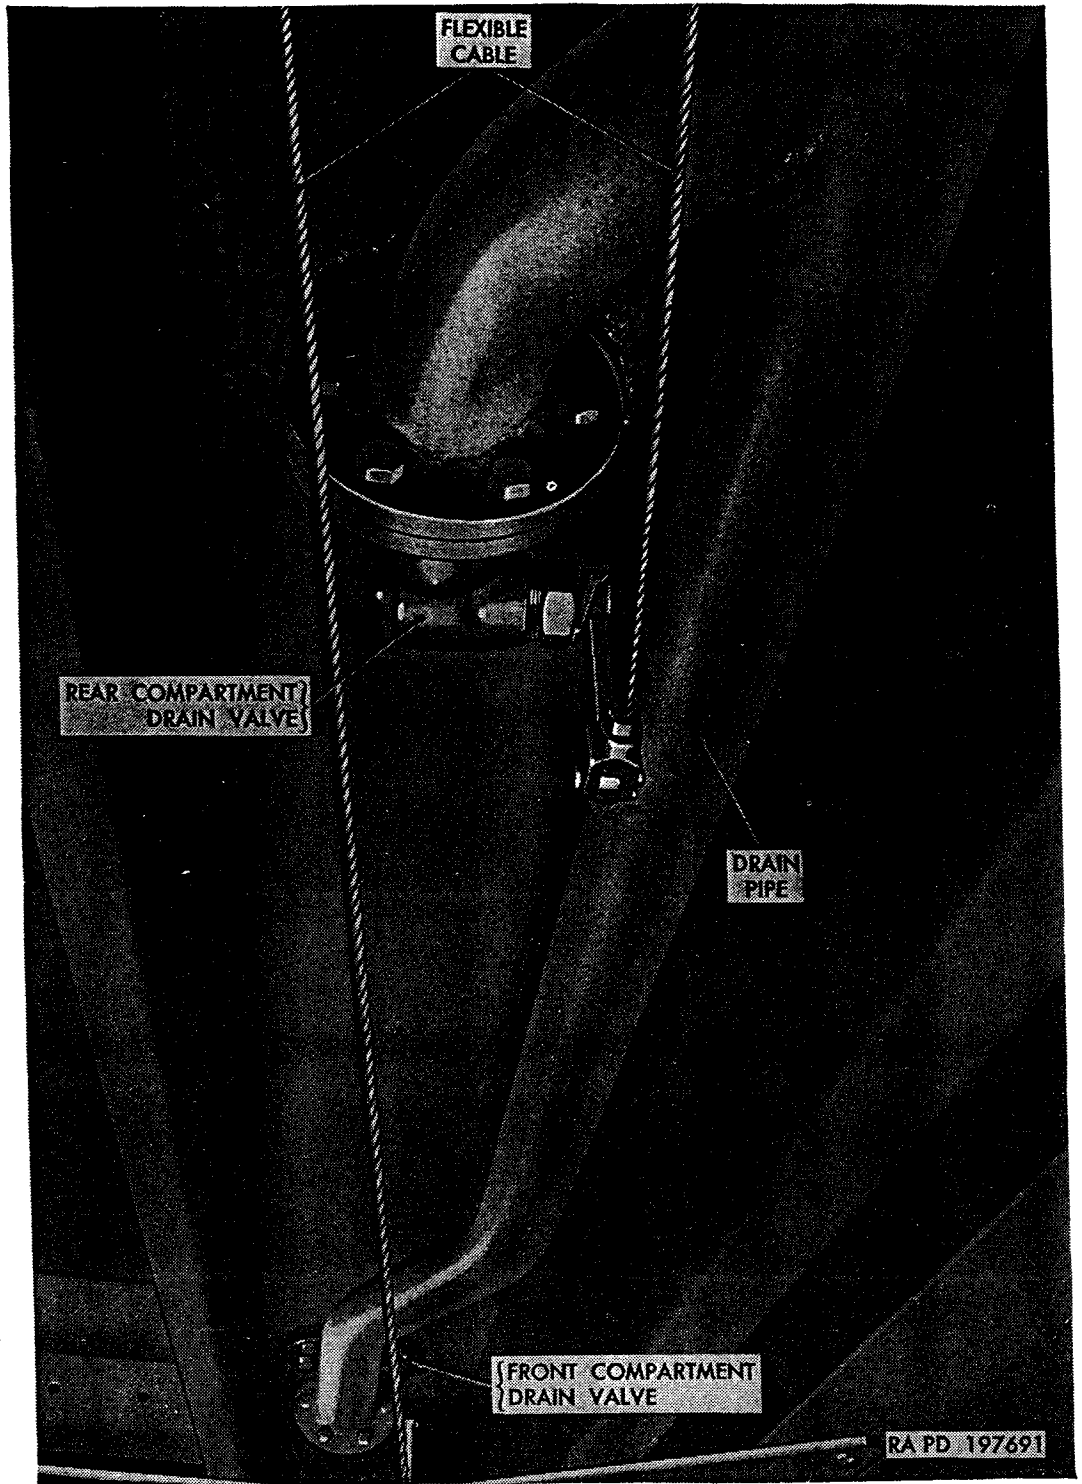
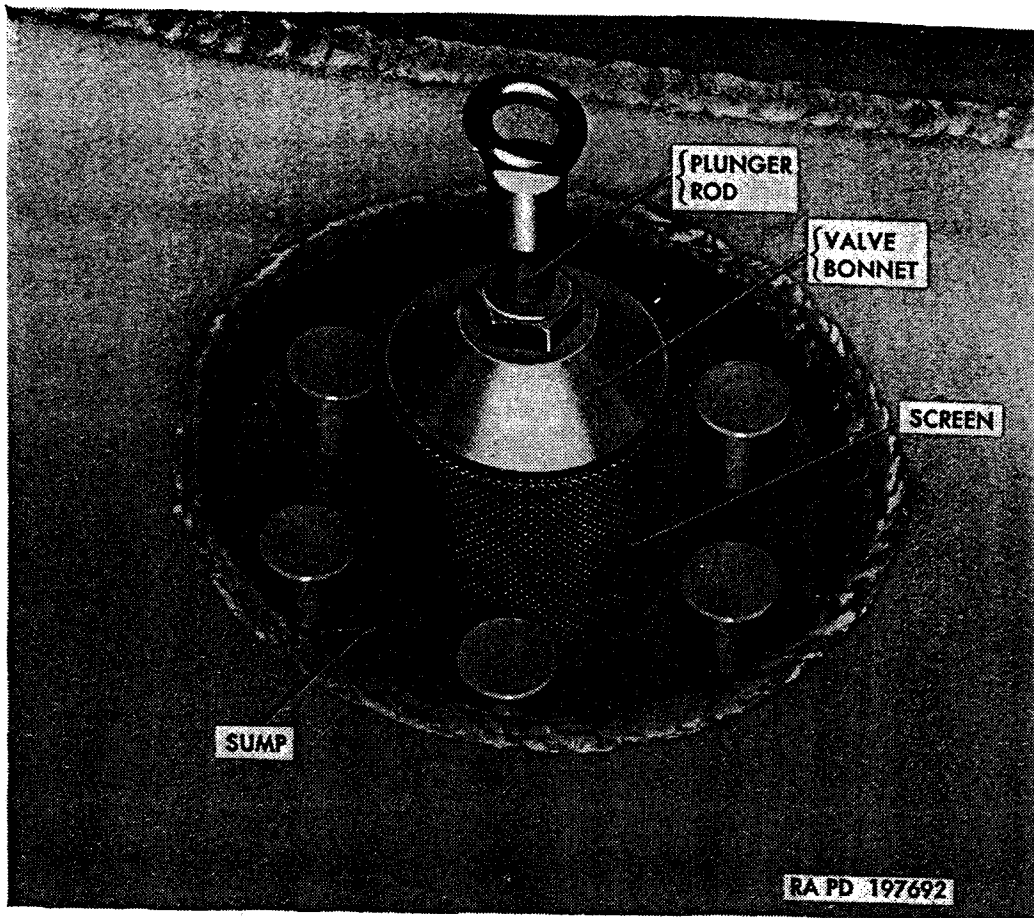
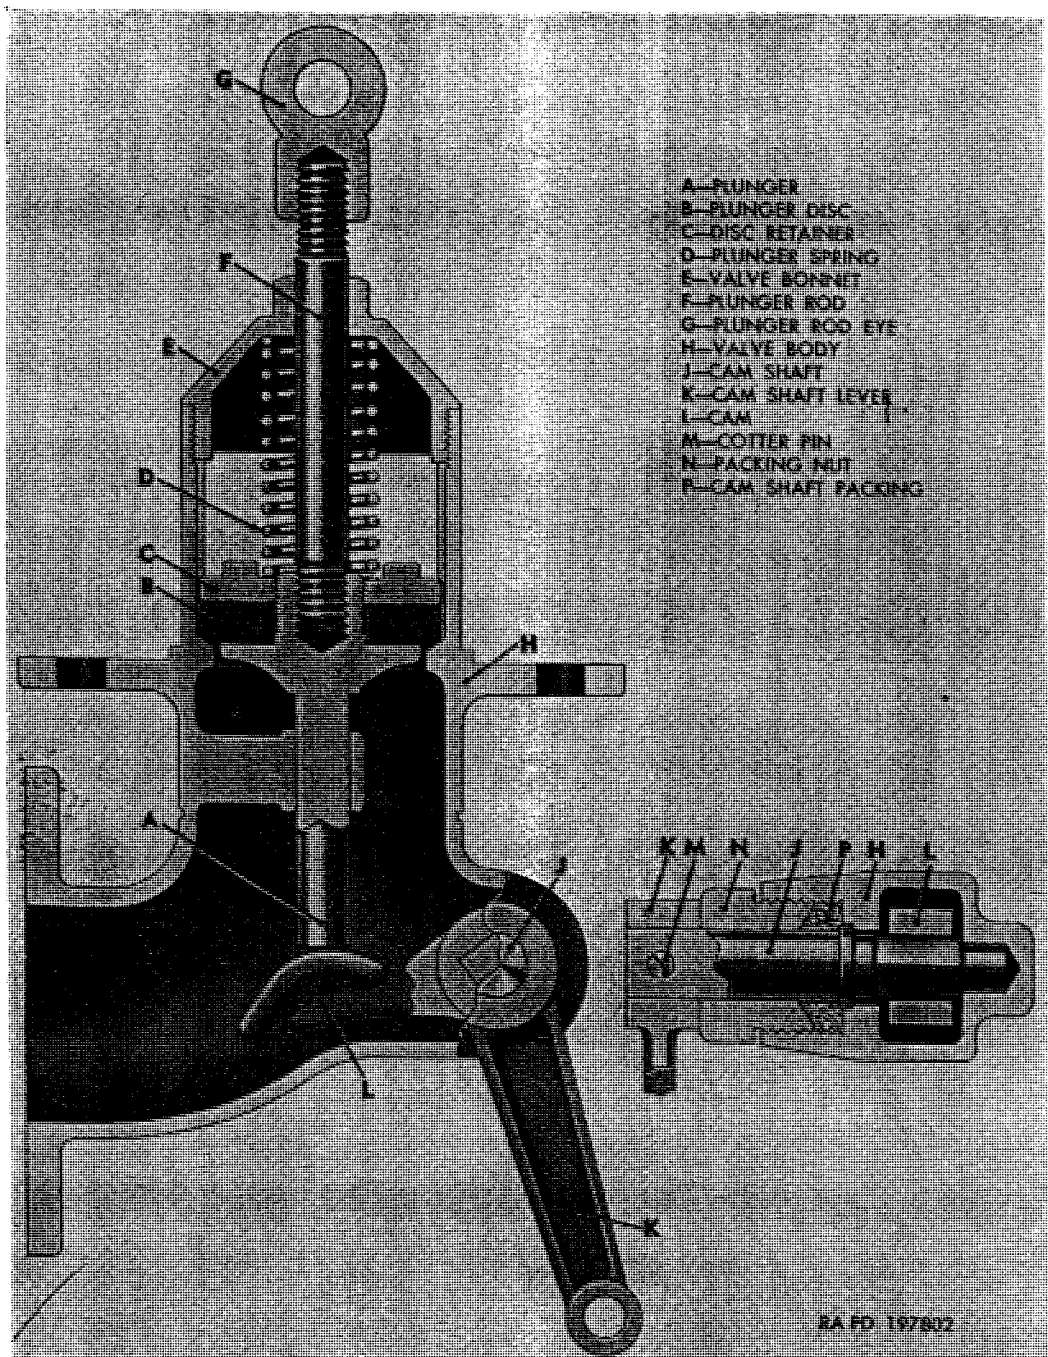
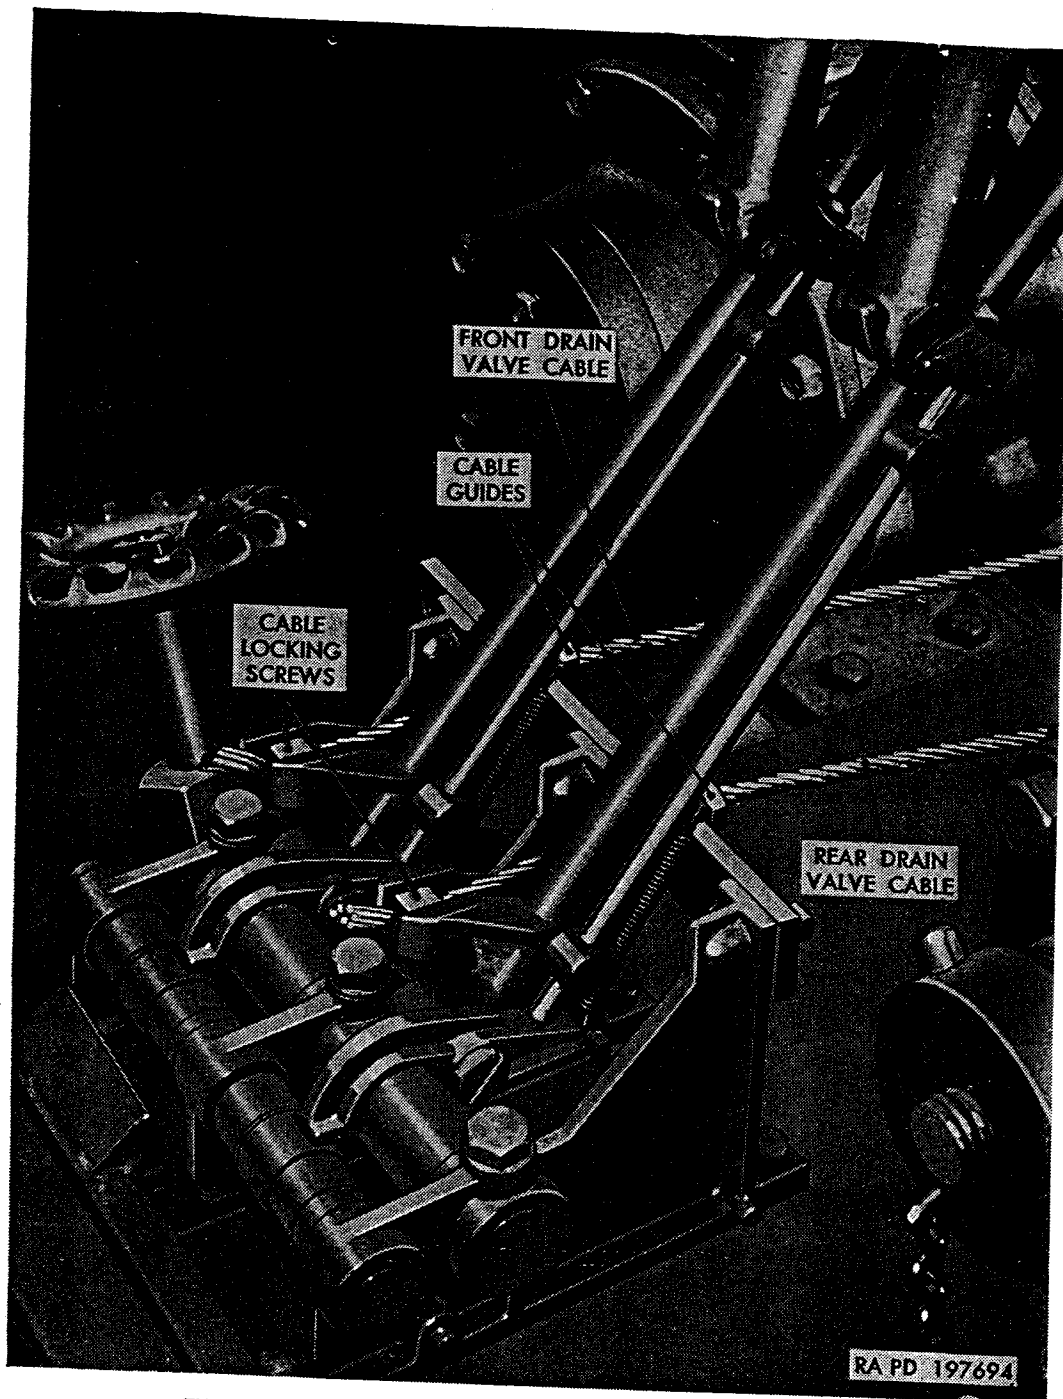

Figure 368. Drain valves and drain pipe installed.
Figure 369. Drain valve screen installed.
Figure 370. Water tank drain valve.
Figure 372. Drain valve operator assembly installed.
a. General. Drain valve sump with tapped mounting lugs is welded into bottom of each tank compartment. Both drain valves open into a drain pipe which connects to pump suction pipe and gate valve in equipment compartment. Drain valves are controlled by operating levers in equipment compartment (par. 52). Drain valves, drain pipe, and cables are accessible from under vehicle after removing drain pipe cover. Cover is secured to body underframing by three cap screws and nuts at each end. Drain valves, drain pipe, and control cables, as viewed from under vehicle at rear end with drain pipe cover removed, are shown in figure 368. Detailed views of drain valve installed are shown in figures 369 and 371. Drain valve controls installed in equipment compartment are shown in figure 372. Drain valve screen can be serviced, cam shaft packing can be replaced, and plunger spring can be replaced without removing the valve assembly from the vehicle. Tank must be drained (par. 53) before performing the service operations which follow.
b. Servicing Drain Valve Screen (fig. 369). This procedure applies to drain valve screen in either the front or rear compartment.
- (1) Open manhole and heater covers (par. 340b(1), (2), and (3)) to gain access to drain valve screen.
- (2) Lift screen off drain valve. Thoroughly clean screen, using a brush if necessary to remove all foreign material. If cleaning solvent is used to loosen corrosion, wash screen in hot water before installing.
- (3) Place screen over valve. Close heater cover and manhole cover, making sure gaskets are in place and in good condition (par. 340c(3) and (4)).
c. Drain Valve Cam Shaft Packing Replacement (figs. 370 and 371). This procedure applies to either the front or rear tank compartment drain valve.
- (1) Remove three cap screws and nuts at each end of drain pipe cover and pull cover out from under rear of vehicle.
- (2) Remove cotter pin securing cam shaft lever on cam shaft. Remove lever from cam shaft.
- (3) Unscrew cam shaft packing nut from valve body and remove nut from cam shaft. Use pointed or hooked tool to pull packing out from between cam shaft and valve body.
- (4) Wrap asbestos-graphite packing ($\frac{3}{16}$ in. sq x $11\frac{1}{2}$ in. long) around cam shaft and press into body until packing nut can be started. Thread packing nut into valve body and tighten.
- (5) Install cam shaft lever on cam shaft and secure with cotter pin. Operate lever several times; then tighten packing nut. Do not tighten sufficiently to prevent valve closing.
- (6) Install drain pipe cover under vehicle and secure in place at each end with three $\frac{1}{4}$ -20 x 1 cap screws and $\frac{1}{4}$ -20 safety nuts.
d. Drain Valve Plunger Spring Replacement (figs. 369 and 370). This procedure applies to either the front or rear tank compartment drain valve.
- (1) Open manhole and heater covers (par. 340b(1), (2), and (3)) to gain access to drain valve.
- (2) Lift screen off drain valve. Unscrew eye from end of plunger rod; hold rod with pipe wrench or pliers while unscrewing eye.
- (3) Using wrench on hex portion of valve bonnet, unscrew bonnet from valve body. Lift bonnet and plunger spring off plunger rod.
- (4) Install new spring over plunger rod, install bonnet over plunger rod, and thread bonnet into valve body. Tighten bonnet.
- (5) Thread eye onto end of plunger rod and tighten. Clean drain valve screen (b(2) above); then place screen over valve.
- (6) Close heater cover and manhole cover (par. 340c(3) and (4)).
- (3) In equipment compartment, loosen nut on drain valve cable locking screw in operating lever; then pull cable end out of screw. Pull cable out of guide in control lever shaft bracket spacer; then withdraw cable from under vehicle.
- (4) Thread one end of new cable through cable guides in control lever shaft bracket spacer and in tank rear support member.
- (5) At drain valve end of cable, place ferrule over cable; then place inserts on cable with end of cable flush with tapered ends of inserts. Place inserts and cable end into cable yoke; then thread ferrule into yoke over the inserts and tighten. As ferrule is tightened into yoke, tapered inner diameter of ferrule forces tapered inserts, together, causing threads in inserts to bite into cable.
- (6) In equipment compartment, thread end of cable through cable locking screw in operating lever. Provide for slight slack in cable with operating lever in forward (valve closed) position; then tighten nut on cable locking screw.
- (7) Install drain pipe cover under vehicle and secure in place at each end with three $\frac{1}{4}$ -20 x 1 cap screws and $\frac{1}{4}$ -20 safety nuts.
g. Drain Valve Operator Assembly Replacement (fig. 372). Drain valve operator comprises the drain valve control levers together with their mounting brackets, shafts, bearings, etc., as a unit assembly.
- (1) Loosen nuts on drain valve cable locking screws. Withdraw cable ends from locking screws and from cable guides in bracket spacer.
- (2) Remove six cap screws and nuts attaching control lever shaft brackets to bottom of equipment compartment. Lift operator assembly out of compartment.
- (3) Position new or rebuild operator assembly on equipment compartment floor and secure with six $\frac{1}{4}$ -20 x $\frac{3}{4}$ cap screws and $\frac{1}{4}$ -20 safety nuts. Tighten nuts.
- (4) Thread ends of cables through cable guides in bracket spacer and through holes in cable locking screws. Provide for slight slack in cables and operating levers in forward (valves closed) position; then tighten nuts on cable locking screws.